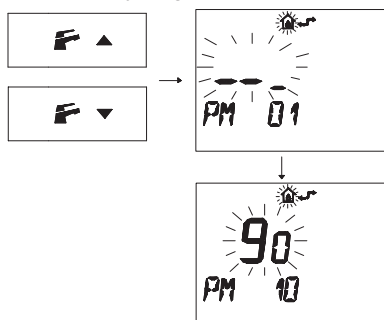

Fig. 8.28
- Press buttons **F** and **▲** or **F** and **▼** to display the "PM10" program for selecting the ignition frequency (Fig. 8.28).
In Fig. 8.28 a SET programmed at **90** is displayed